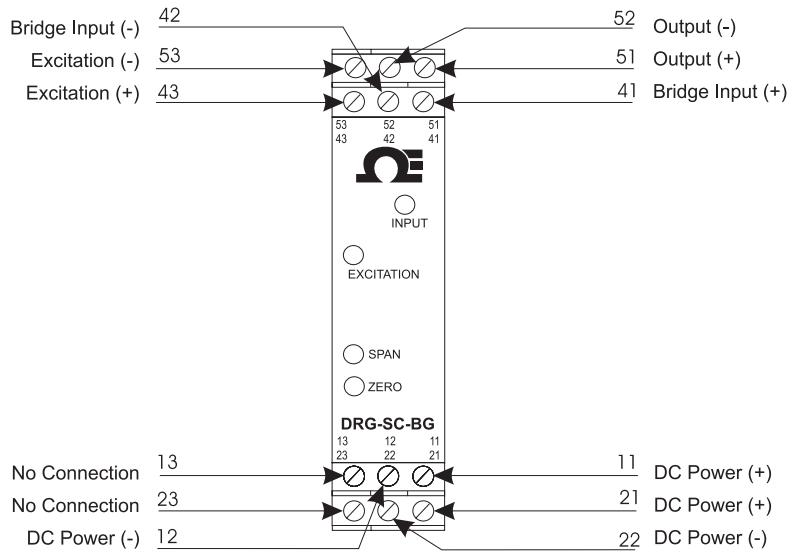

Figure 2: Wiring Diagram for DRG-SC-BG
1. After configuring the DIP switches, connect the input to a calibrated millivolt source. Connect the output to the actual device load (or a load equivalent to the actual device load value) and apply power. (see Wiring Diagram, Figure 2 or 3).